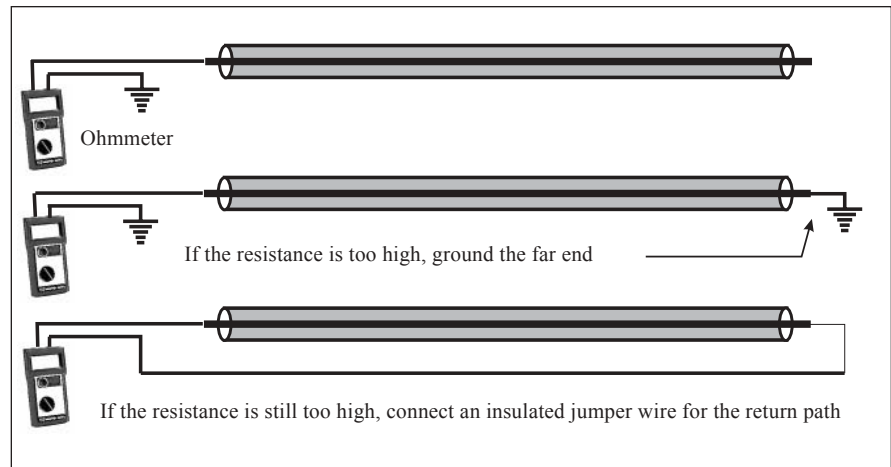

Figure 13: Using an ohmmeter to measure resistance of the circuit
- By measuring the resistance of the circuit with an ohmmeter. When the resistance is less than approximately 80,000 Ω, there will typically be enough current flowing in the cable to allow a good job of tracing. This is no guarantee that the transmitted current is passing through the target cable. The measured resistance may be affected by other circuits or pipes electrically connected to the target cable acting as parallel resistances. See Figure 13.